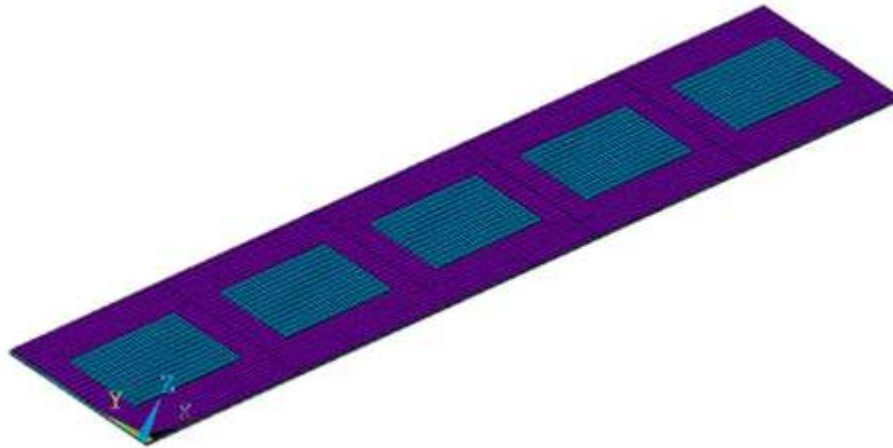

Fig. 3. Finite element model of the substrate strip slice with die already bonded.
- To minimize modeling computation time, a strip slice was used as shown in Fig. 3.